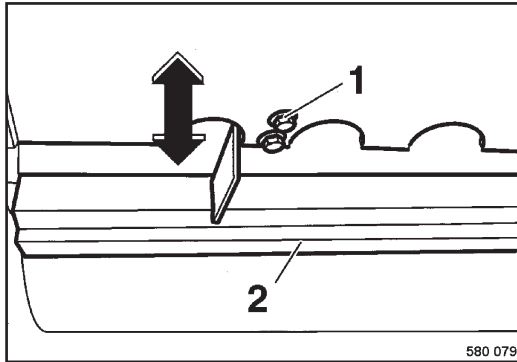

Fig. 102
- To adjust the scrapers 1 (Fig. 102) loosen the fastening screws (2) in the slots and push the scraper bracket towards the drum until the scraper touches.